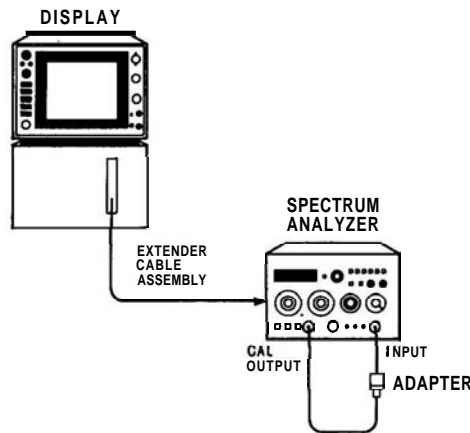

FIGURE 5-5. CRYSTAL AND LC BANDWIDTH FILTER ADJUSTMENT TEST SETUP
2. Connect equipment as shown in Figure 5-5.